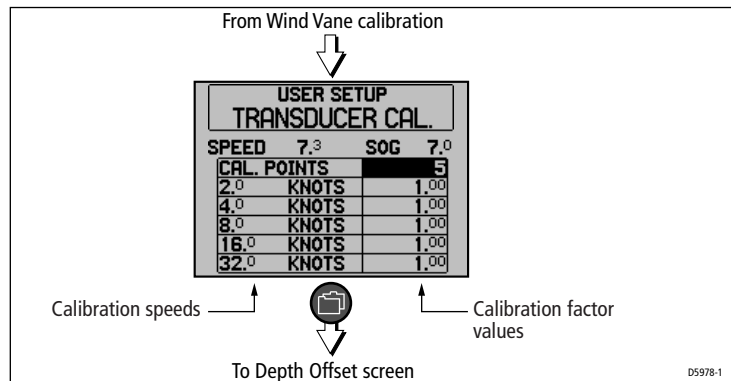

Figure 2-24: Speed transducer calibration (Graphic Display)
In order to take into account the changes in water-flow characteristics across the hull, for the different speeds, it is advisable carry out speed calibration at as many speeds as possible, up to the maximum of five, provided by the calibration screen (see *Figure 2-24*). **This is particularly important for planing vessels.**
1. Use the ▲ or ▼ button to highlight the CAL.POINTS value field (as in *Figure 2-24*). This value defines the number of different speeds you want to use for speed calibration.